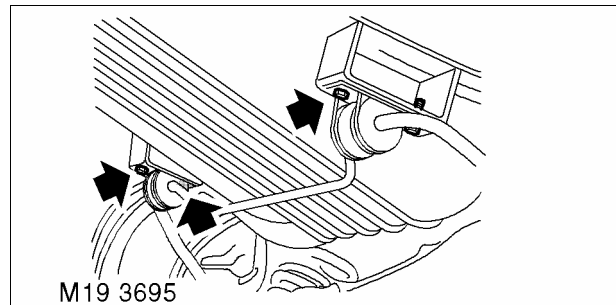

Fig. 6
- 10 Remove rear anti-roll bar bracket securing nuts and bolts. Allow bar to swing down clear of fuel tank. See Fig. 6.